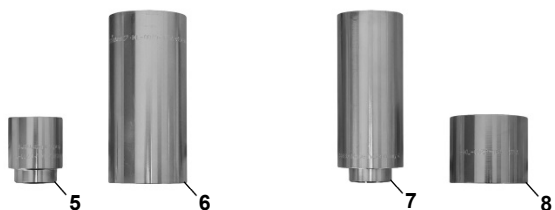

Fig. 2: Removing the dust boot.
2. Remove dust boot from suspension ball joint to be replaced. (Fig. 2)